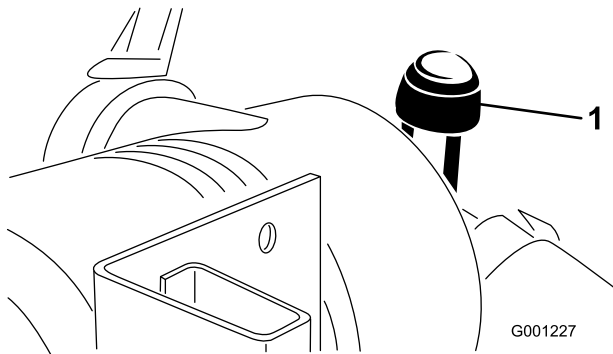

Figure 46
- Service the air-cleaner filter when the air-cleaner indicator (Figure 46) shows red or every 400 hours (more frequently in extremely dusty or dirty conditions). Do not over service the air filter.
9. Reset the indicator (Figure 46) if it is showing red.